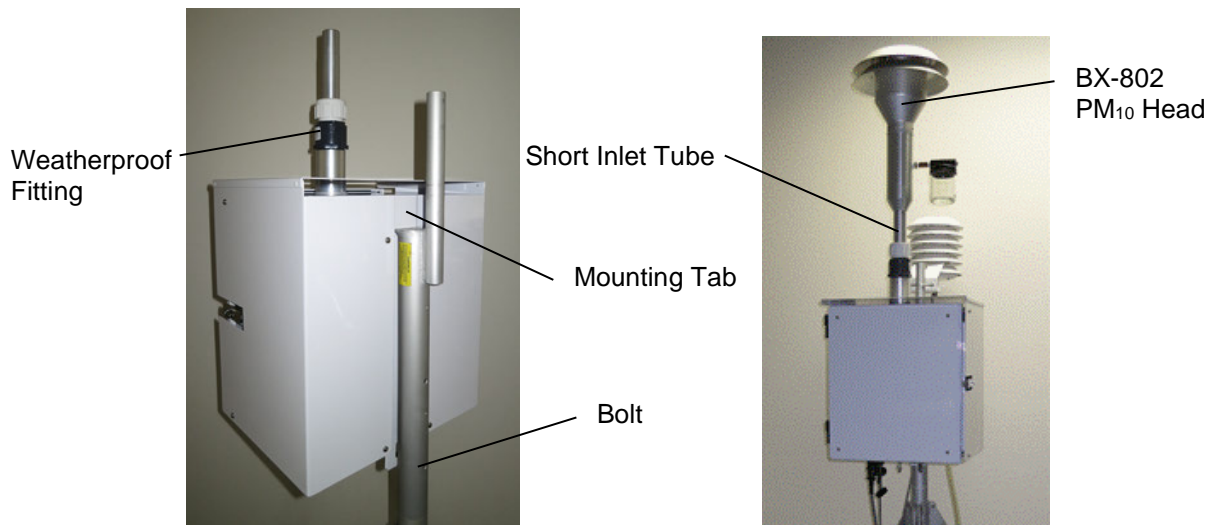

Figure 2-2 Tripod Mounting of the E-BAM PLUS
2. **Install the E-BAM PLUS onto the tripod:** Lift the E-BAM PLUS assembly and slide the slot on the back of the E-BAM PLUS over the tab on the top of the tripod. Insert the supplied ¼-20 bolt through the tab on the bottom of the E-BAM PLUS and through the hole in the body of the tripod (see Figure 2-2). Secure it with the supplied washers and nut. This prevents the E-BAM PLUS from shifting on the tripod.